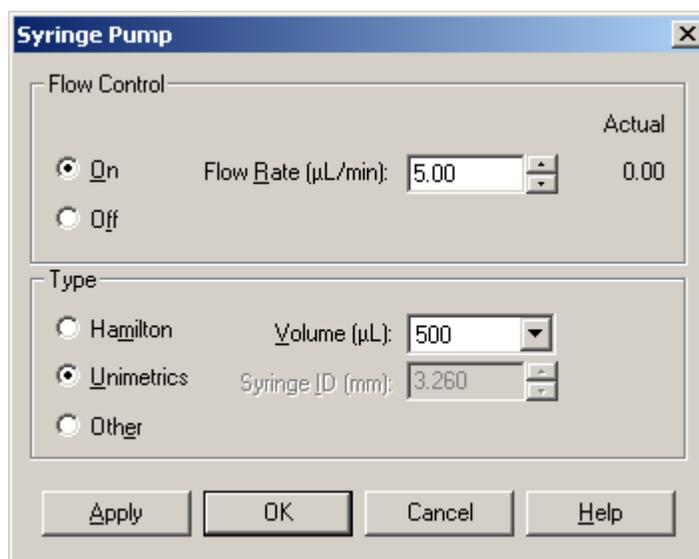

Figure 38. Syringe Pump dialog box
5. Click the **Syringe Pump** button to display the Syringe Pump dialog box. See Figure 38.